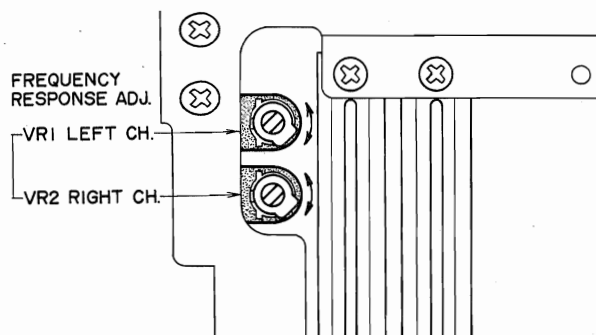

Fig. 27
4. FREQUENCY RESPONSE ADJUSTMENT (See Fig. 27)